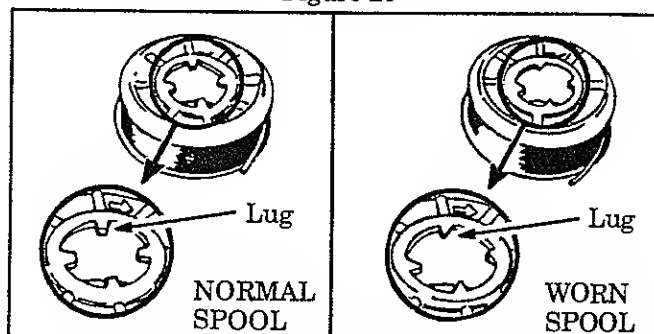

Figure 21
- Replace the spool when the square corners on the lugs are rounded off, reduced in size, or broken off. Figure 21.